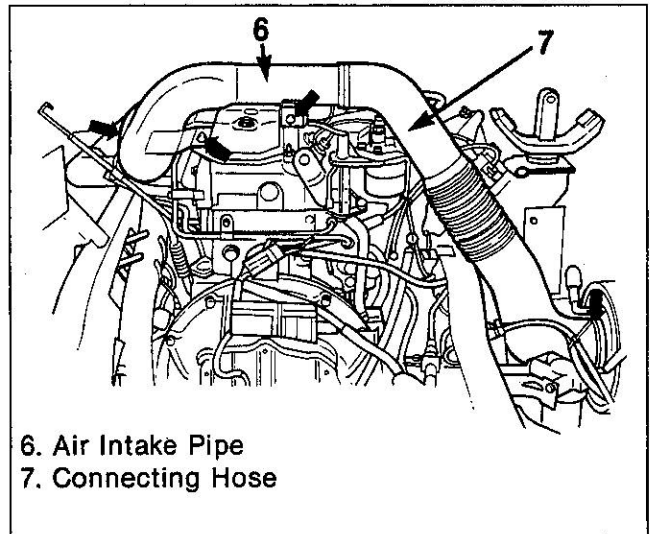

Figure 3. Air Intake Pipe to Turbocharger Attachment
6. Air intake pipe (6) with connecting hose (7) from the turbocharger and the air cleaner (figure 3).